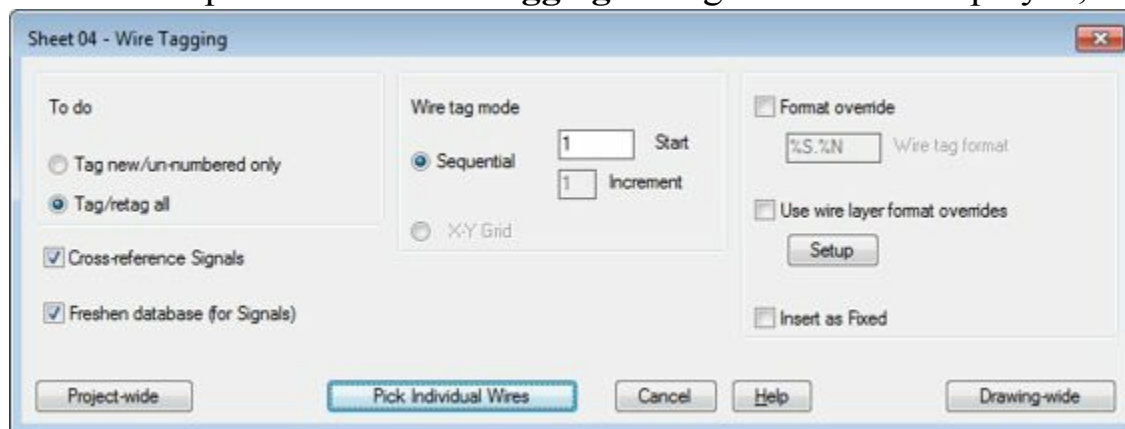

Figure-44. Wire Tagging dialog box
- Click on the **Wire Numbers** button from the **Wire Numbers** drop-down in the **Insert Wires/Wire Numbers** panel. The **Wire Tagging** dialog box will be displayed; refer to Figure-44.